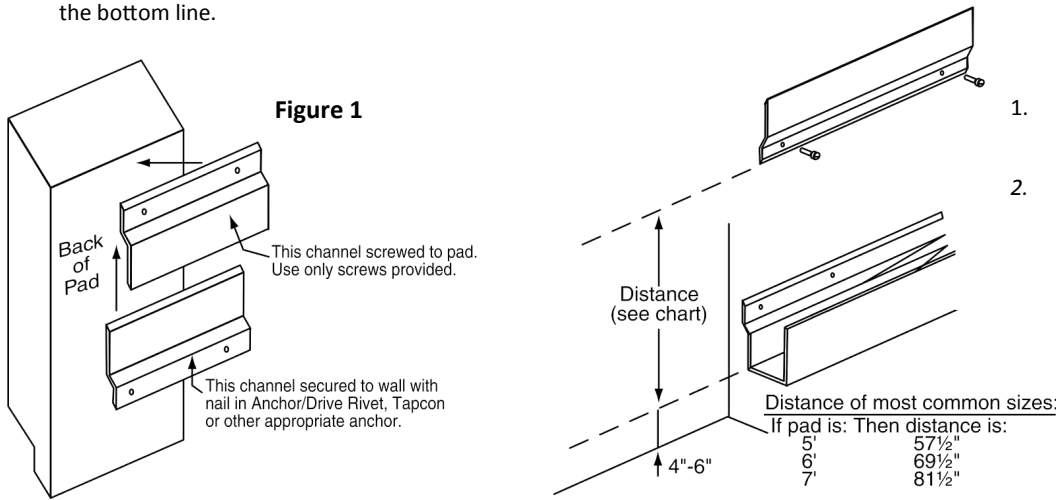

Figure 2
1. Draw or strike a line on the wall between 7 1/4" and 9 1/4" up from the finished floor. The bottom of the pad will be 4" to 6" above finished floor, using above measurements. Consult Draper's drawing or the Architect/GC to verify distance pads should be installed above finished floor. (Fig.2)
1. Draw or strike a chalk line on the wall 4" to 6" from the floor. This height will prevent dirt from accumulating under the mat. (seen in Fig. 2).
2. Line up the "J" channel with the bottom edge on the line (seen in Fig. 2). Drill and anchor the channel to the wall with an appropriate fastener (provided by installer). Spacing and type of fastener is dependent on the type of wall structure. A groove is provided in the channel to aid in drilling holes.
3. Measure up from the bottom line, the height of the pad less 2 1/2" and make another line parallel to the bottom line. Refer to the Distance chart. (Fig. 2).
4. Locate the "Z" channel on the top line (Fig. 2) as shown, and anchor to the wall as done with the "J" channel on the bottom. Spacing and type of fastener is dependent upon the type of wall structure.